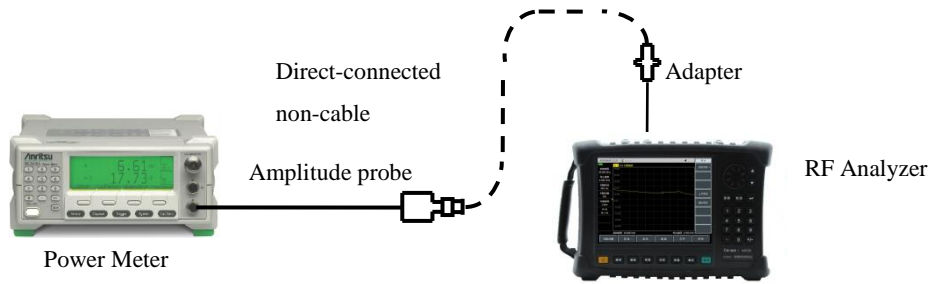

Figure 16-3 Block Diagram of Power Level Accuracy Test
- b) Connect the power meter ML2437A with the power probe MA2445D for zero calibration, as shown in Figure 16-3, and connect Port 1 of the instrument to the power probe through the adapter.